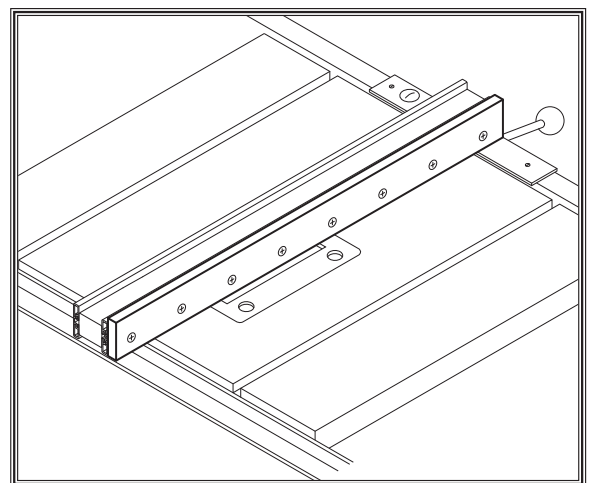

Figure 54. Auxiliary fence.
4. Thread the flat head screws through the auxiliary fence and into the hex nuts in the standard fence, and tighten securely as shown in **Figure 54**.